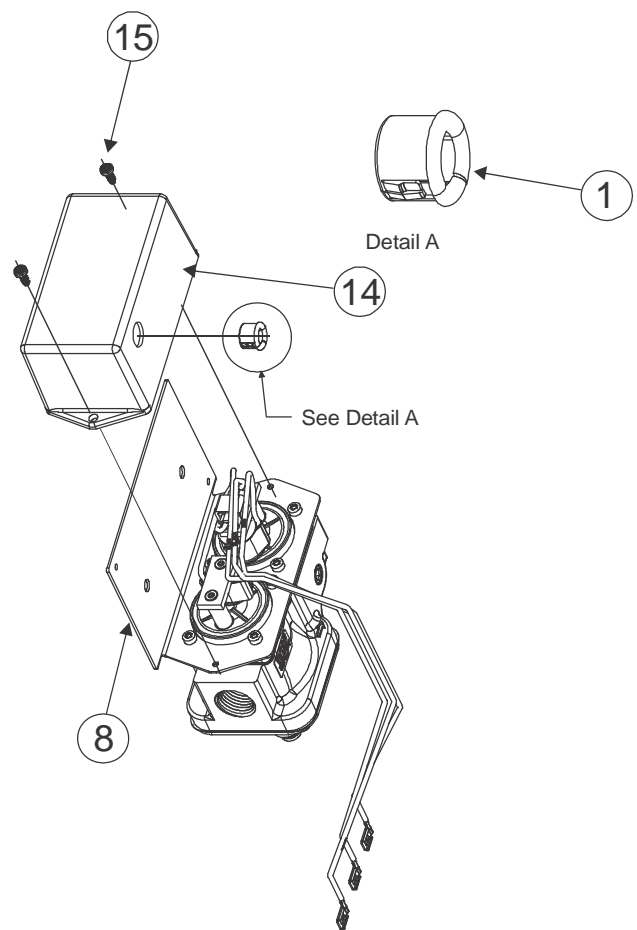

Figure 11:
10. Add the cover (Item 14) on top of the mounting plate (Item 8) and secure with 2-(#6 x 3/4) screws provided in the kit (Item 15) (see Figure 11).
11. Slide the wires through the open section of the grommet (Item 16) (see Figure 11).